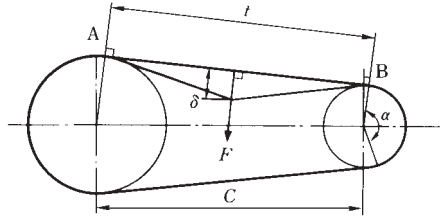

Figure 2.8 Back Tension on a Toothed Belt
Although in toothed belts the allowable tension can differ with the number of pulley teeth and the revolutions per minute (rpm), the general recommendation is to use $1/3.5$ of the allowable tension as the back tension (F). This is shown in Figure 2.8. Therefore, our 257 N force will require $257/3.5 = 73$ N of back tension.